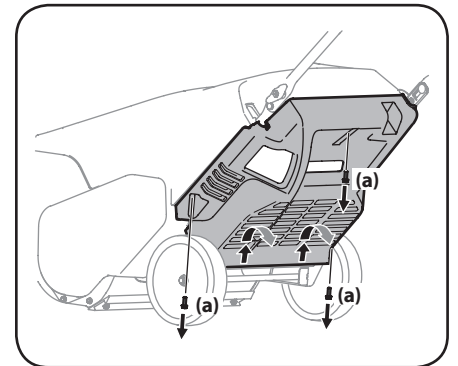

Figure 4-1
- Remove the three screws (a) that secure the lower panel. Remove the lower panel by lifting up on the panel to free the tabs at the bottom of the panel from the tab slots and then pull back. See Figure 4-1.